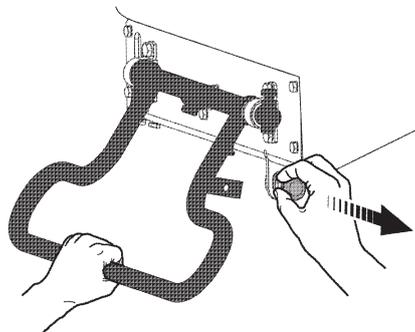

Abb. S3: Unlocking the shut down yoke
- ➔ Pull out the spring-loaded locking bar with your right hand until the shut down yoke is visually unlocked (Fig. S3).